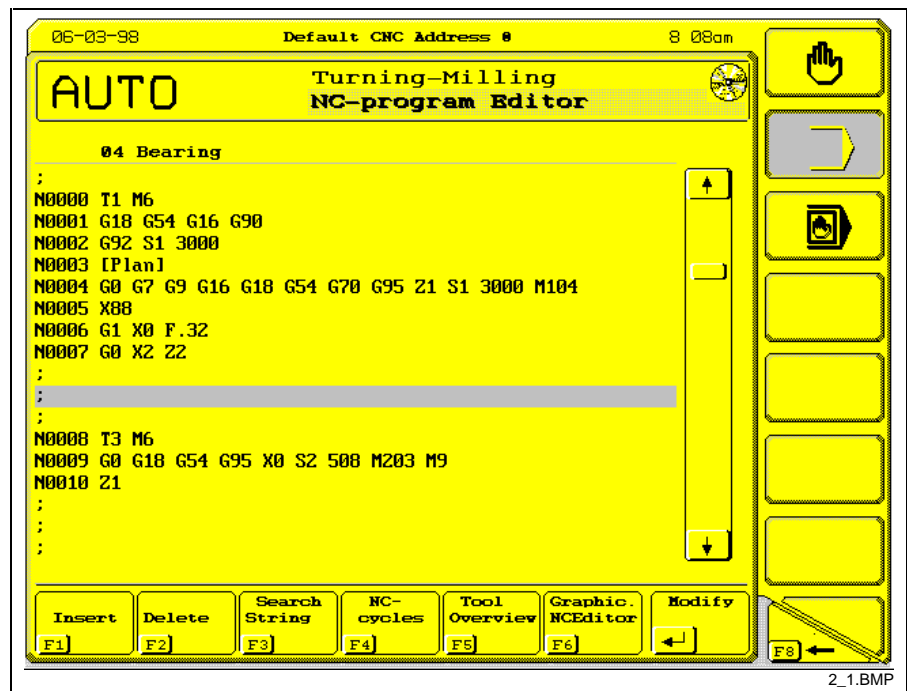

Fig. 2-1: NC editor - invoking the GNE via the F6 soft key
- Invocation** Within the NC editor, the GNE is invoked via the soft key <F6> „Graphical NC editor“. The GNE is activated („entry“) before the line that contains the cursor. (see Fig. 2-1).